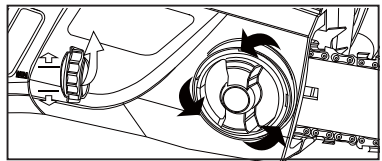
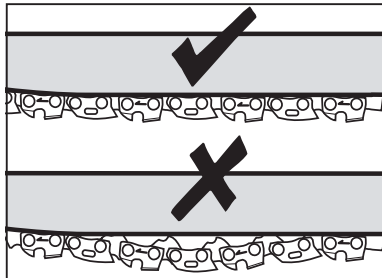

Fig. 2
Fig. 3
3. To adjust the saw chain tension, rotate the chain tensioning wheel (Fig. 2). Rotating the wheel upwards increases the tension while rotating it downwards decreases tension. A properly tensioned chain should have no sag (Fig. 3) and should only be